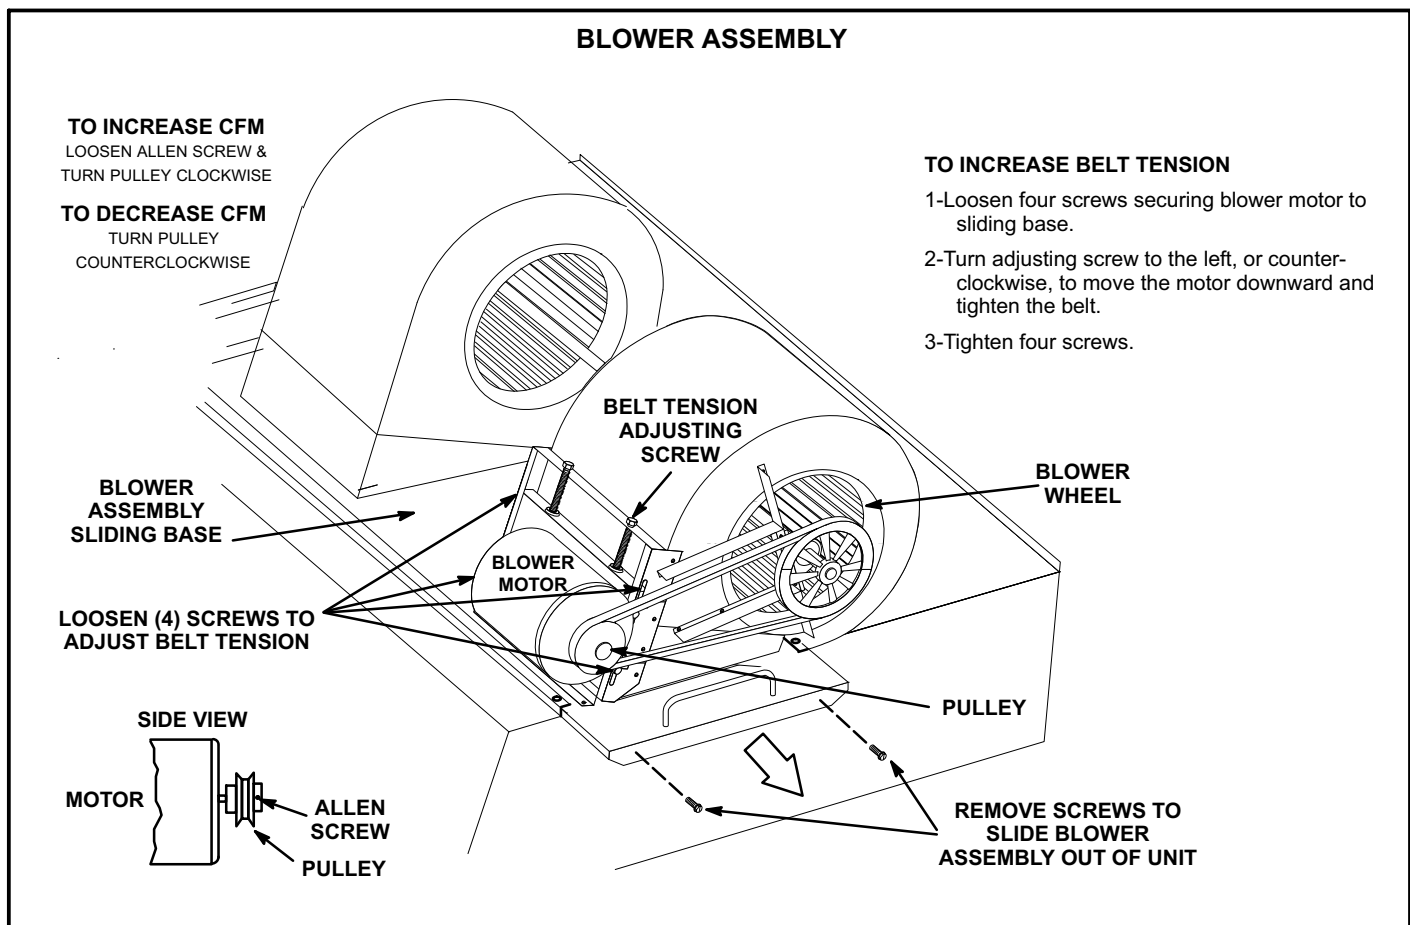

FIGURE 11
The blower compartment in TCA180/300 units is located between the evaporator coil and the compressor / control section on the opposite side of the condenser coil. The blower assembly is accessed by removing the screws on either side of the sliding base. The base pulls out as shown in figure 11.
The blower assembly is secured to a sliding base which allows the entire assembly to be pulled out of the unit. See figure 11.
- 5- The RPM can be adjusted at the motor pulley. Loosen Allen screw and turn adjustable pulley clockwise to increase RPM. Turn counterclockwise to decrease RPM. See figure 11 for TCA180/300 units.
- 1- Loosen four bolts securing motor base to mounting frame. See figure 11.